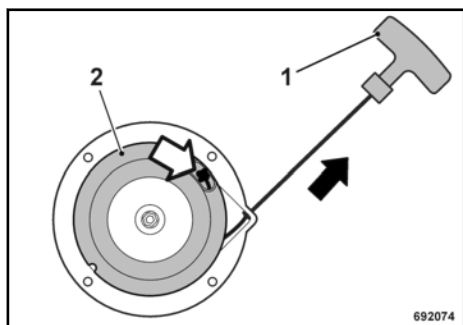

Fig. 66
Pull the starter rope with the starter handle (1) out completely ↪ Fig. 66.